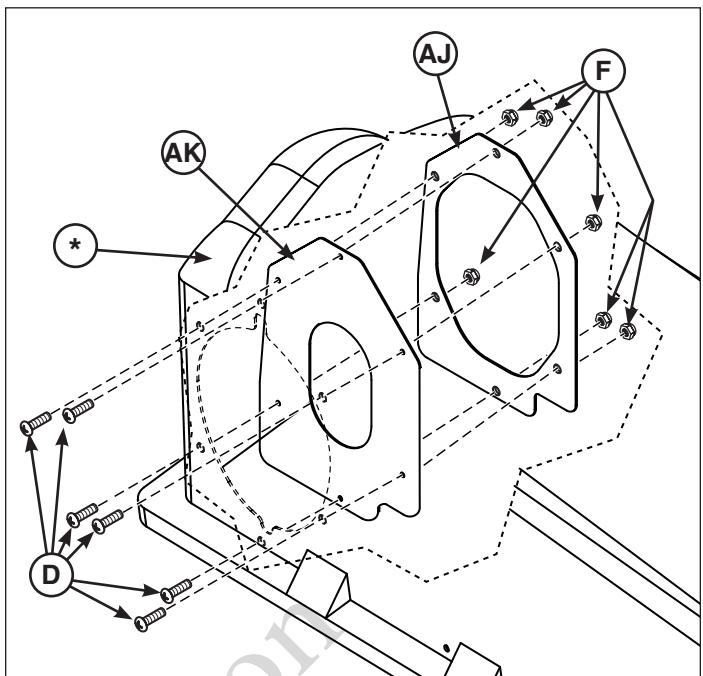

Figure 26
2. Inside grass catcher cover (*, Figure 26) place cover seal (AK) and flange seal (AJ). Secure using six screws (D) and nuts (F).